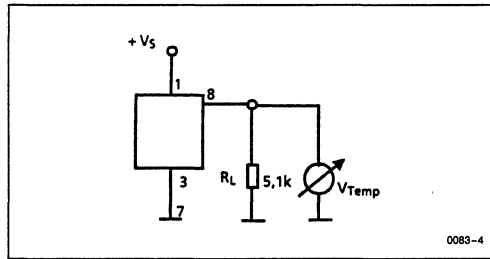

Figure 3
*The magnetic parameters are specified for a homogenous magnetic field at the sensor center as per Figure 3.